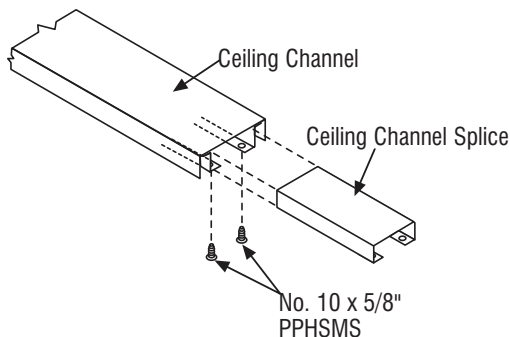

Figure 3-3 Ceiling Channel Splice
10. Add ceiling channel splices and corner splices at each splice and corner location. See Figure 3-3.